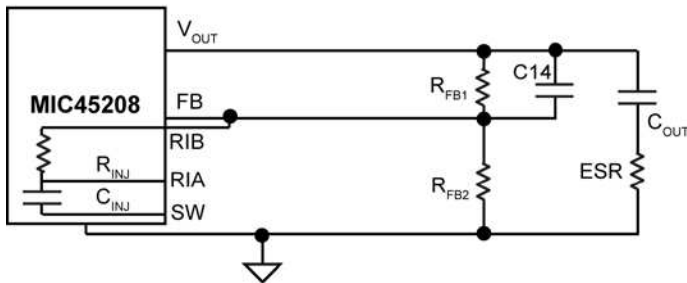

Figure 10. Internal Ripple Injection at FB via RIB Pin
- There is virtually no or inadequate ripple at the FB pin voltage due to the very-low ESR of the output capacitors; such is the case with ceramic output capacitor. In this case, the  $V_{FB}$  ripple waveform needs to be generated by injecting suitable signal. MIC45208 has provisions to enable an internal series RC injection network,  $R_{INJ}$  and  $C_{INJ}$  as shown in Figure 10 by connecting RIB to FB pin. This network injects a square-wave current waveform into FB pin, which by means of integration across the capacitor ( $C_{14}$ ) generates an appropriate saw-tooth FB ripple waveform.